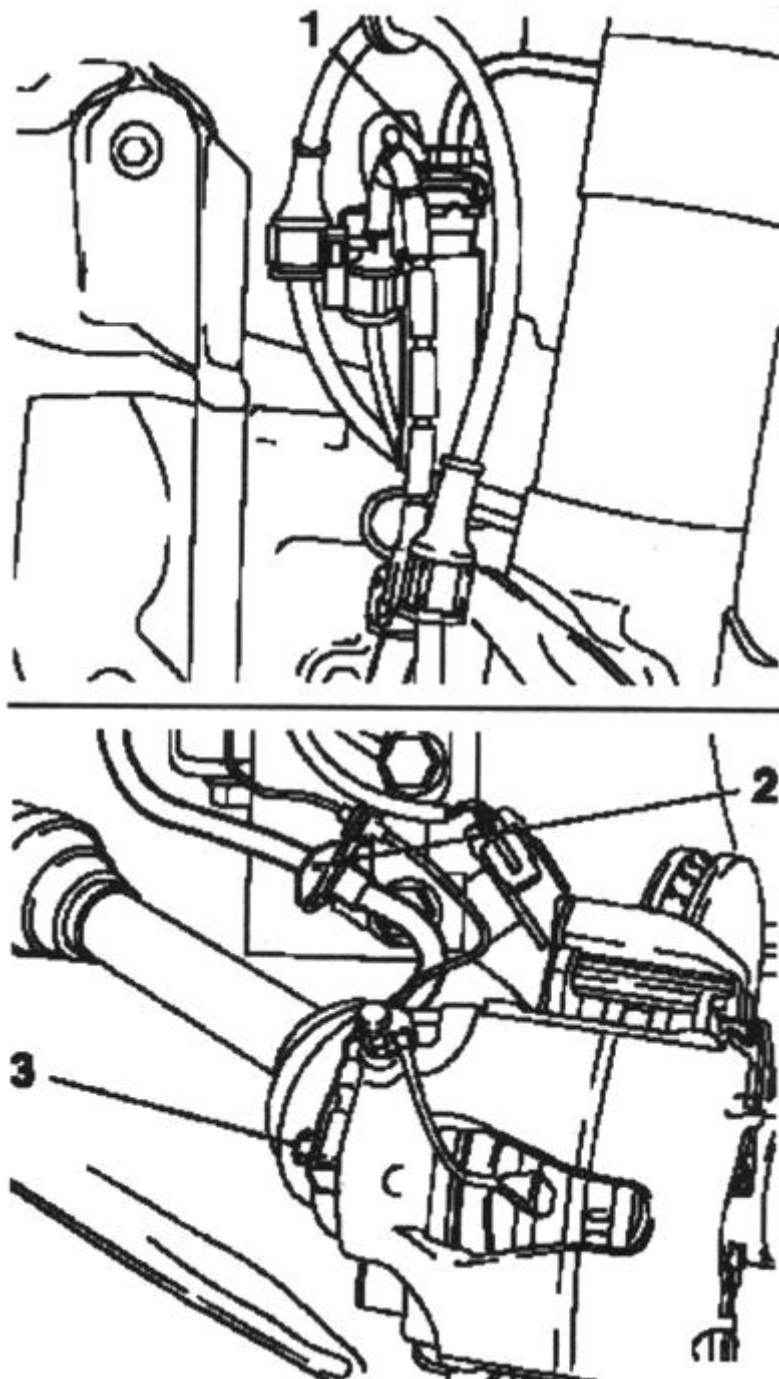

Fig. 6.20. Disconnecting brake hose:
Remove the strap and choke tubes braking system (1) of the brake hose (Figure 6.20).